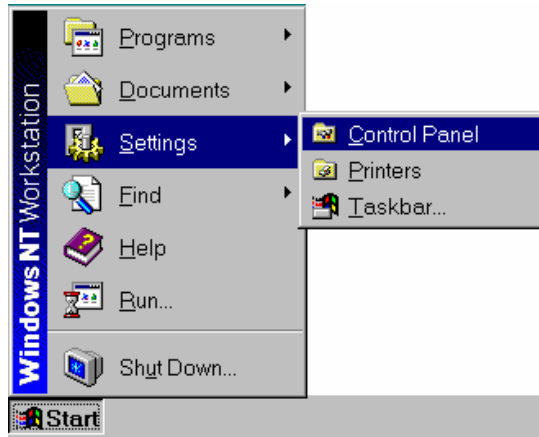

Fig 1-2
- Invoking *Control Panel* as Fig 1-2 shown.